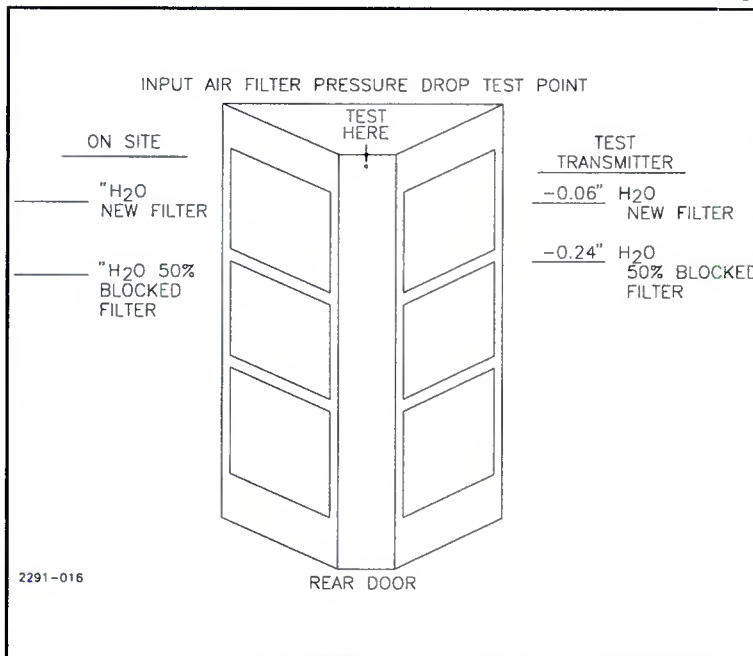

Figure 5-1. Air Test Location
- Connect a sensitive manometer (such as Dwyer model 40-1) to the small hole in the rear door near the top (see Figure 5-1).